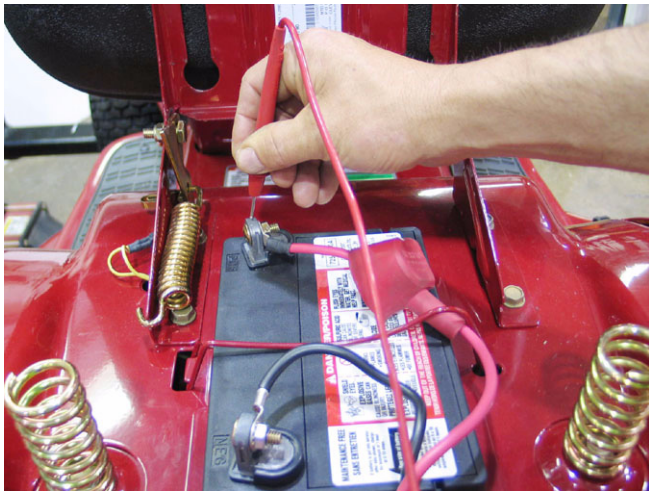

Figure 17.48
17.48. Applying this principle to the positive side of the system: See Figure 17.48.